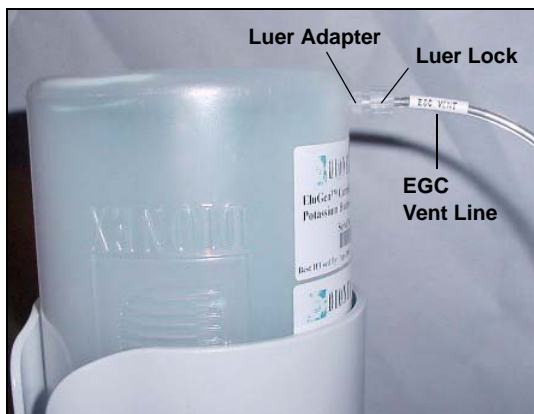

Figure B-85. Installing the EluGen Cartridge Vent Line
5. Twist the luer lock and EluGen cartridge vent line into the luer adapter (see Figure B-85).